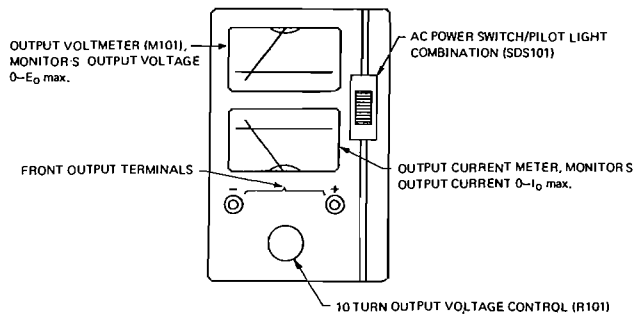

FIG. 2-1 FRONT PANEL TERMINATIONS, PCX–MAT
- a) FRONT PANEL: Refer to FIG. 2-1 (PCX–MAT only).